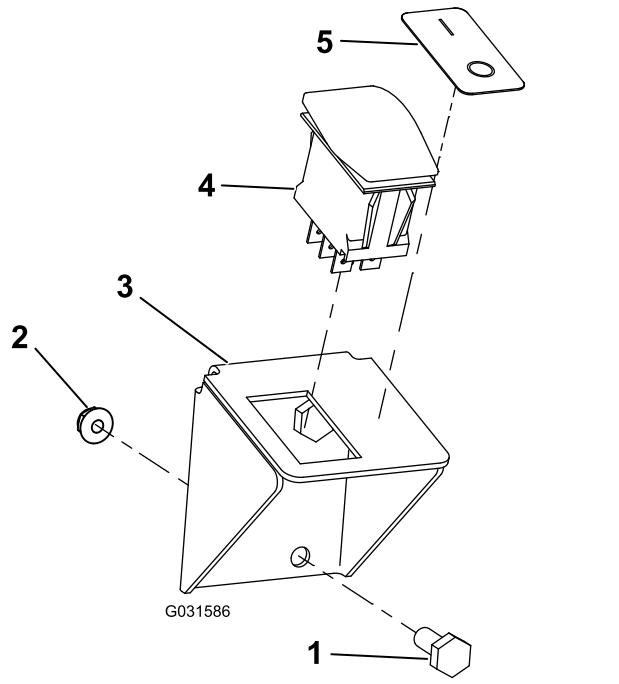
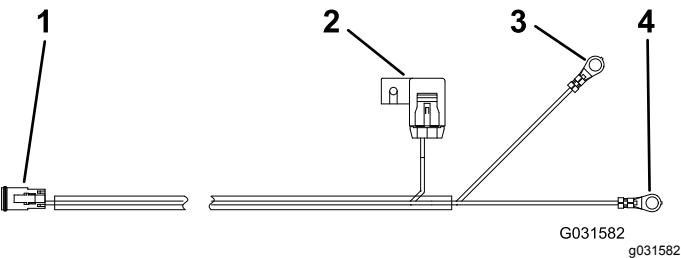

Figure 9
Figure 11
- Mount the switch bracket to the dash using the 2 bolts and 2 flange nuts (Figure 9).
- Bolt (2)
- Flange nut (2)
- Connect the switch harness to the switch (Figure 9 and Figure 11).
- Place the decal next to the switch (Figure 9).
To power the kit directly from the battery, use the battery harness (Figure 11).